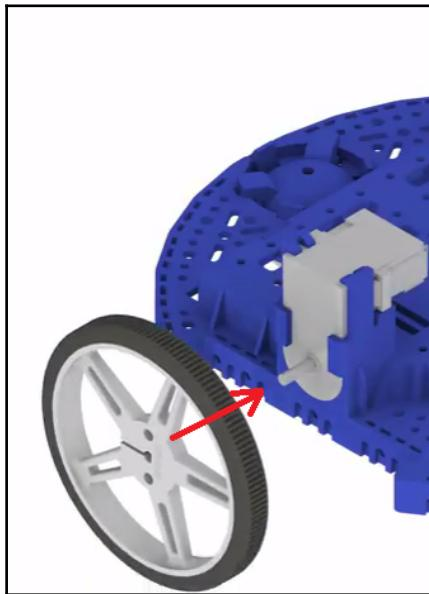

Figure 6.14: Aligning the wheel with the output shaft of the motor. Image courtesy of Pololu—<https://www.pololu.com>
1. Align the wheel with the output shaft of the motor (*Figure 6.14*):